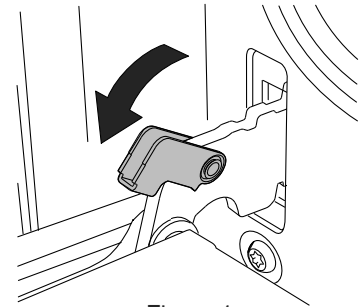

Figure 1
1. To remove the door, open the door to the maximum angle. Then pull the buckle at the door hinge backward. (Figure 1)